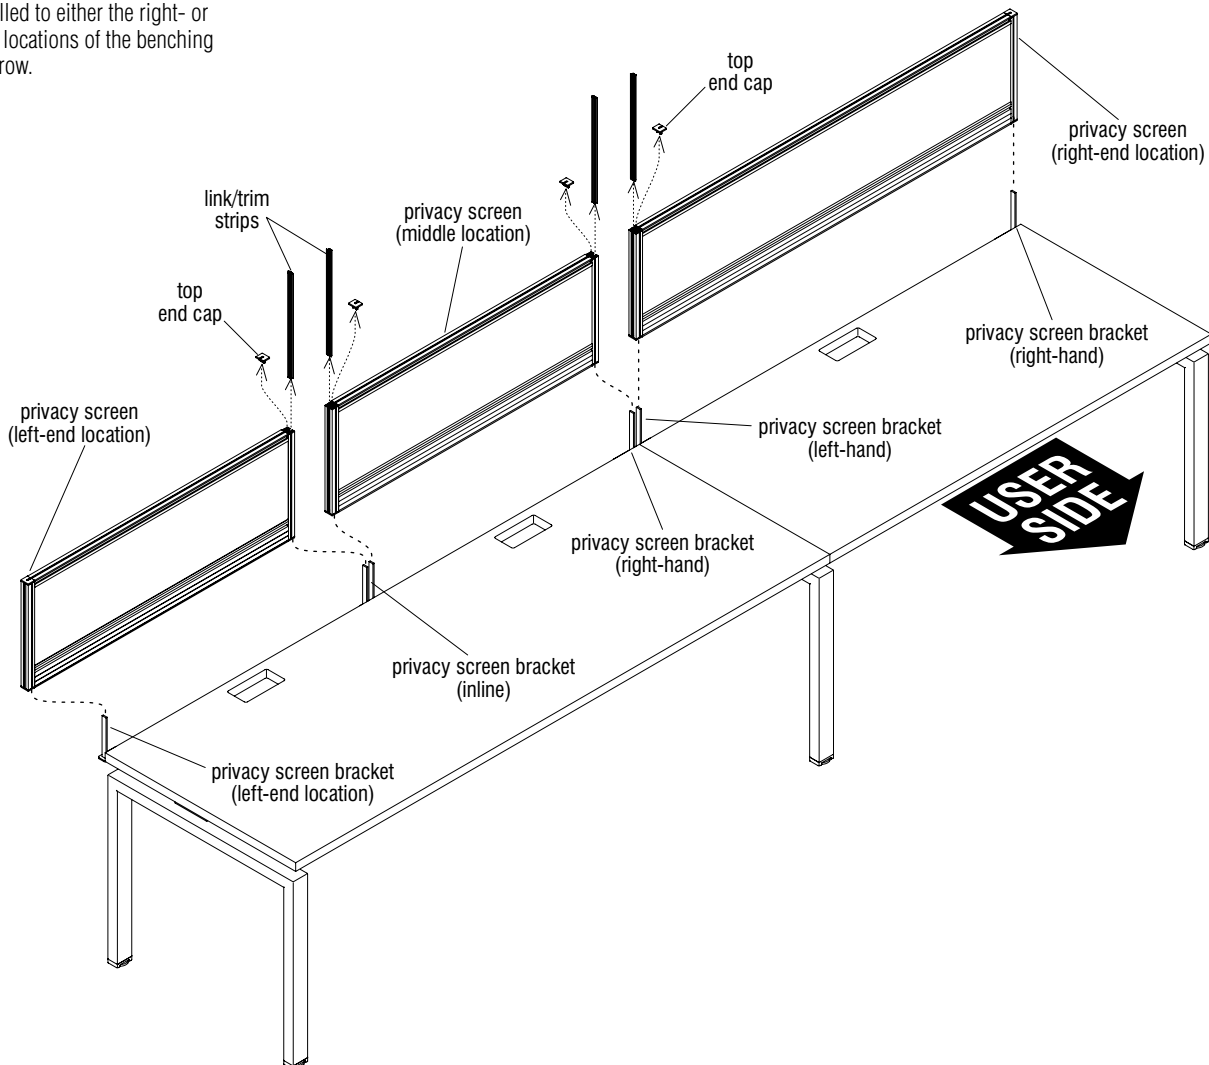

Figure 36 - Single-Sided Fixed Benching, Privacy Screen Installation
**Note:** If Privacy Screens are to be installed (beginning on page 28, Figure 36), the rear privacy screen brackets must be installed at this time, prior to installing modesty panels. See page 8, step 2, figure 9 for privacy screen bracket instructions only.
3. Where privacy screens are to join together, first remove top end caps, then the link/trim strips and set aside (Figure 36).
The upward facing bayonets of the brackets insert into the extrusion of the privacy screen frame. Take care to keep privacy screen level while sliding onto the bayonets to avoid binding (Figure 36).